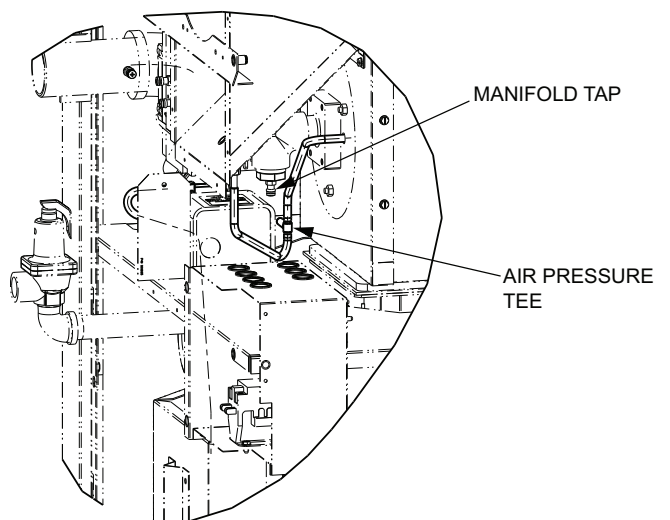

Fig. 46: Air Pressure Tee
4. Attach (1) 12" scale manometer on the fan suction pressure hose. Pull black cap from the air pressure tee as shown in Fig. 46 and connect the manometer. NOTE: Retain caps for reinstallation later.
1. Check blower suction using the manometer attached to the air pressure tee as shown in Fig. 46, with the heater firing at 100% input. The reading should be as noted in Table S for both natural and propane gas.